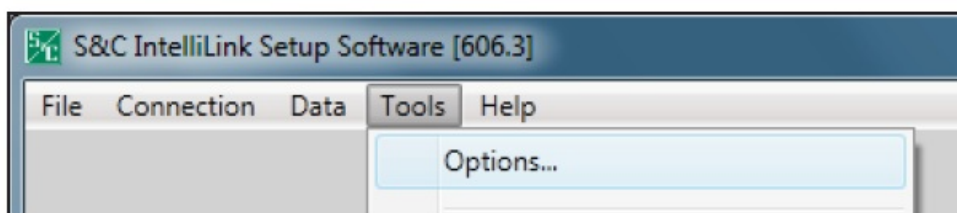

Figure 17. Location of the Tools>Options... button.
- **STEP 3.** Click on the Cancel button. Then, select Tools>Options... on the main menu. See Figure 17.